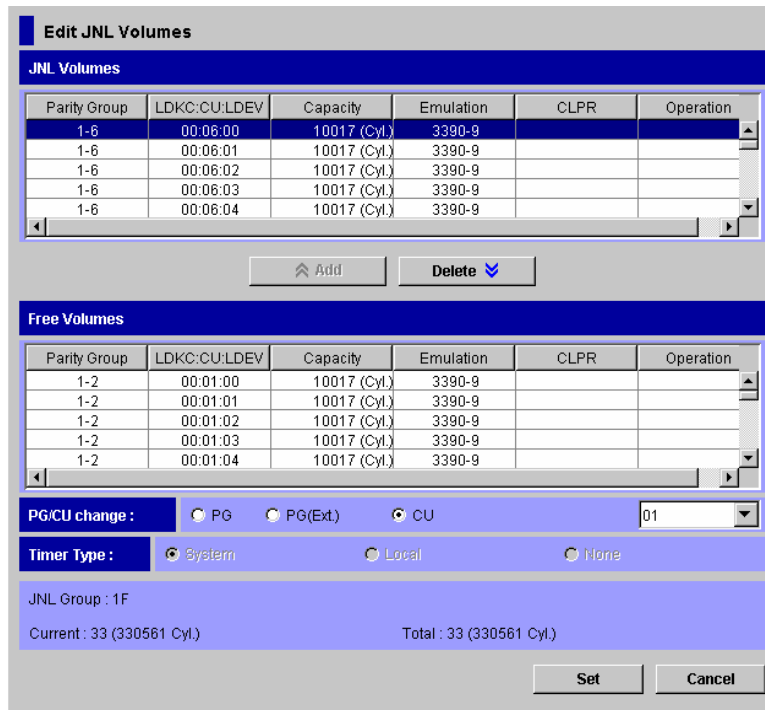

Figure 6-1 Edit JNL Volumes Window
5. In the **Free Volumes** list of the Edit JNL Volumes window (Figure 6-1), select the volumes that you want to register.
5. In the **JNL Volumes** list of the Edit JNL Volumes window (Figure 6-1), select the volumes that you want to delete.